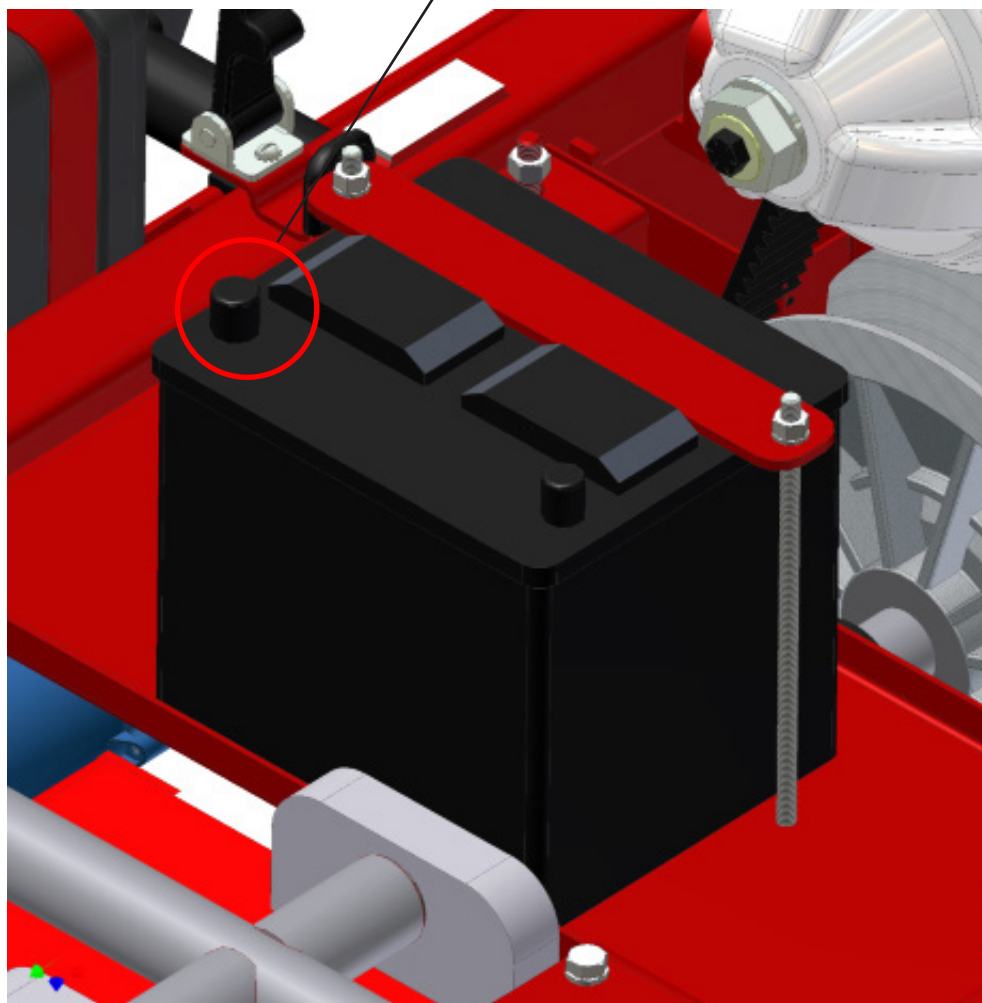

FIGURE 3.3.1
- 3) Disconnect the battery. Refer to Figure 3.3.1.
- 2) Disconnect the battery. Refer to Figure 3.3.1.
- 3) Remove battery and plate assembly by removing (4) 5/16-18 x 1 bolts. Refer to Figure 3.3.1